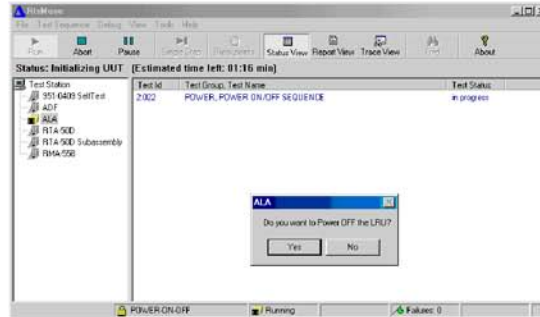

Figure 4. Toggle LRU Power
- 9 When the "Boot Load" is complete disable LRU power by selecting **Yes** in the dialog shown below (see Figure 4).
- 10 Move the jumpers from the shop mode to the normal mode on the Main Processor board (from positions 1-2 and 3-4 to positions 5-6 and 7-8 on J11). Enable LRU power by again selecting **Yes** in the dialog (see Figure 4).
- 1 Disable LRU power by selecting **Yes** in the power toggle dialog (see Figure 4).
- 5 Enable LRU power by selecting **Yes** in the power toggle dialog (see Figure 4).
- 11 Disable LRU power and exit the power toggle program by selecting **No** in the power toggle dialog (see Figure 4).